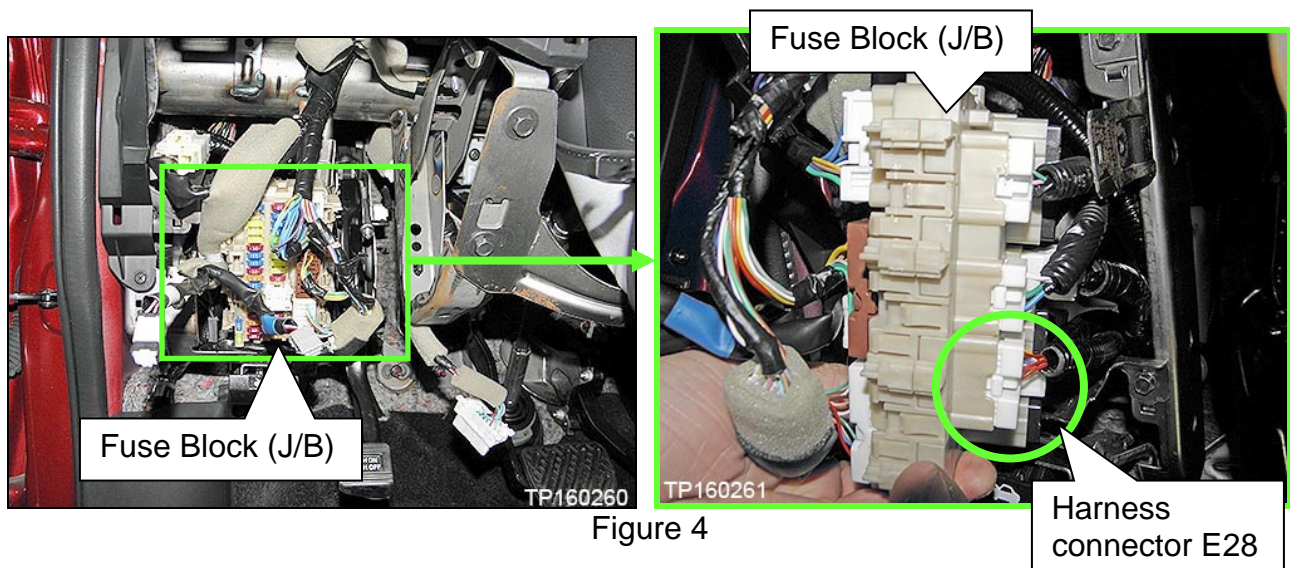

Figure 4
2. Disconnect harness connector E28, shown in Figure 4, from the back of Fuse Block (J/B).